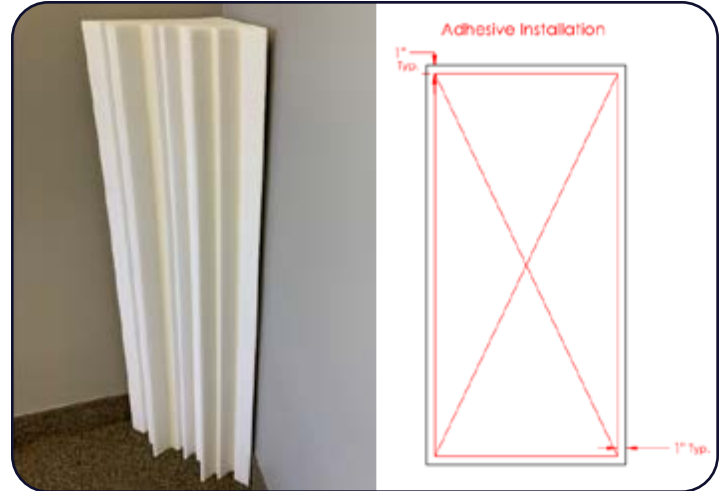

Figure 1: Construction Adhesive Application
5. To maximize bonding process, apply a ¼" bead of adhesive to each of the two (2) sides of the trihedral corner trap, around the full perimeter of the trap, applied to within 1" of trap edges. Use the diagram shown in **Figure 1** as a guide.
6. Apply a ¼" bead of adhesive from opposite corners through the center of the trap, forming an "X". Use the diagram shown in **Figure 1** as a guide.
2. Cut end of adhesive tube to produce a ¼" bead. Apply a ¼" bead of adhesive from opposite corners through the center of the trap, forming an "X". Use the diagram shown in **Figure 1** as a guide.
3. Fix two (2) L brackets on the wall at the correct height to support the bottom edge of the bass trap, located on adjacent walls approximately 10 inches out from the corner.
5. Push bass trap between the brackets. Fix four (4) pan-head wood screws into the plywood, MDF, or similar, edging of the trap.